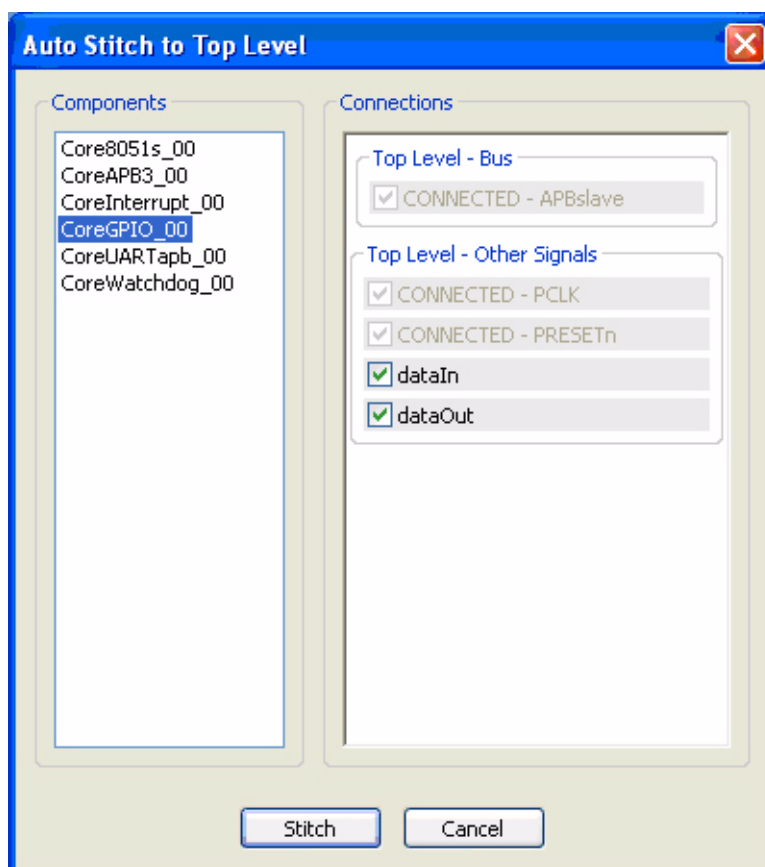

Figure 3-5. Example CoreGPIO_00 Components
8. Select the **CoreGPIO_00** component in the open window. None of the settings in this window need to be changed. Click **Stitch** when ready. See Figure 3-5.